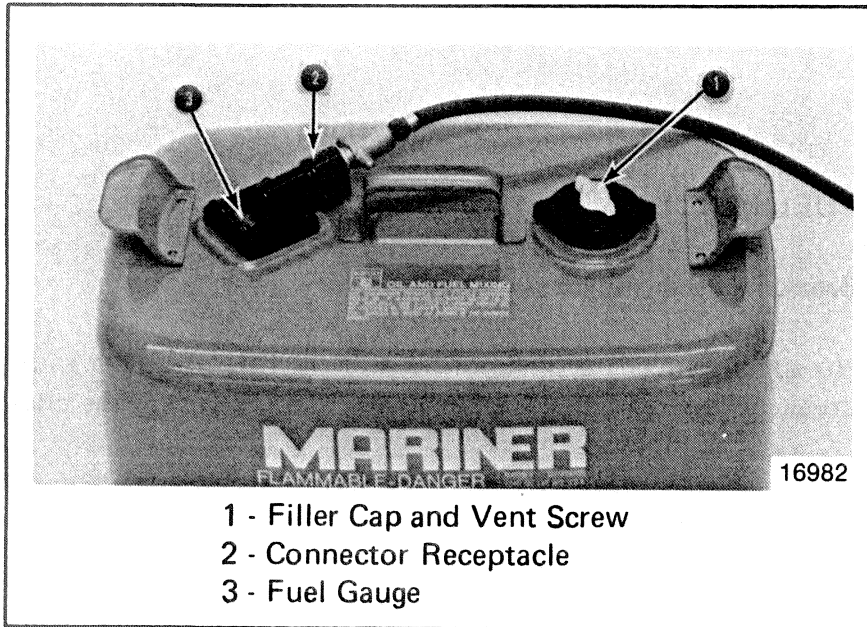

Figure 9. Fuel Tank
1. Connect fuel line to fuel tank by inserting twist connector into fuel receptacle (Figure 9) and lock by turning 1/8-turn clockwise.
Mix fuel directly and accurately in remote tank. Pour equal amounts of gasoline and oil into remote tank. (Figure 9) Mix thoroughly, then add balance of gasoline and mix again. Cleanliness, too, is important in mixing fuel. Be consistent; prepare each batch of fuel exactly the same as previous amounts (to avoid readjustment of carburetor idle mixture screw).
1. Connect fuel line connection (on end of fuel line coming from tank) to engine fuel connection (attached to front of bottom cowl.) See Figure 10. Open vent screw located on fuel tank cap. (Figure 9)